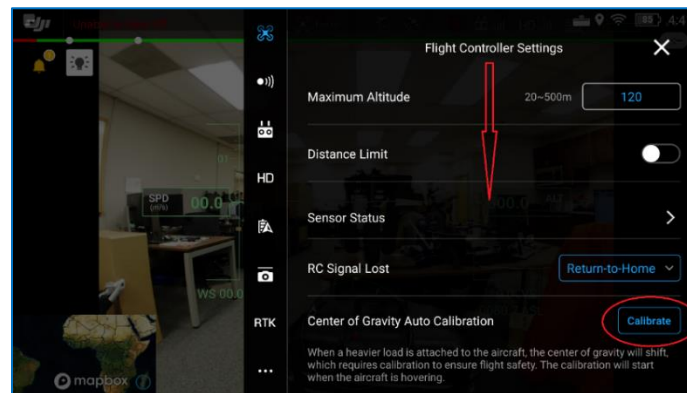

Figure 19. DJI Pilot - Flight controller settings menu.
4. Tap the Center of Gravity Auto Calibration Button and follow the instructions. (Figure 19)